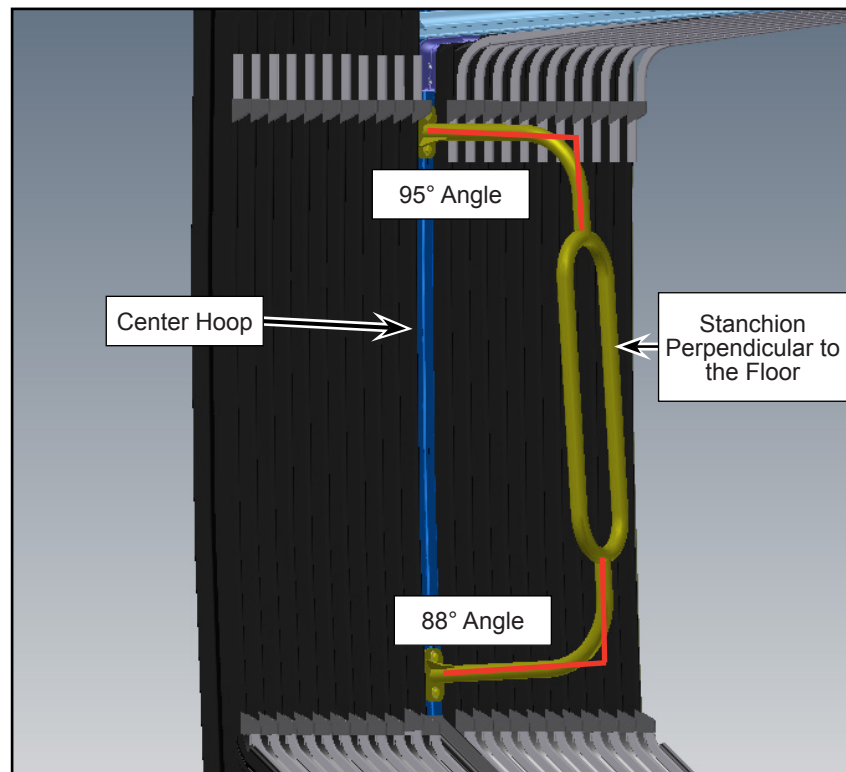

Figure 7 - Typical View of Stanchion Orientation
1.10. Ensure that the curb side stanchion is vertical (perpendicular to the floor) (see Figure 7).